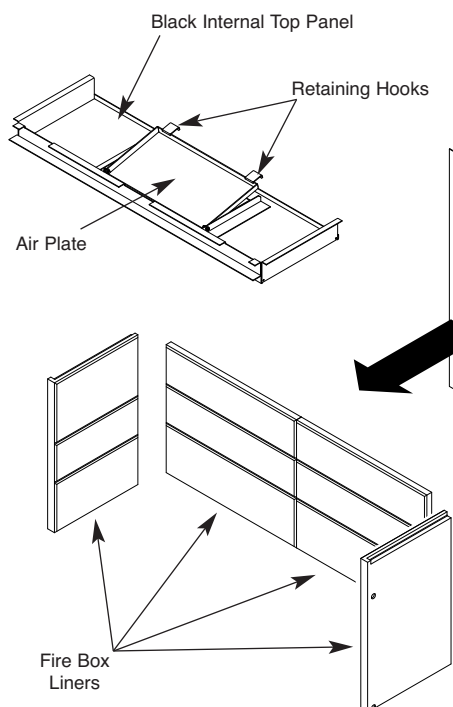

Fig. 6
4. Withdraw the black internal top panel by raising the air plate to disengage the retaining hooks (Fig. 6).
5. Carefully remove fire box liners to avoid damage during installation process (Fig. 6).